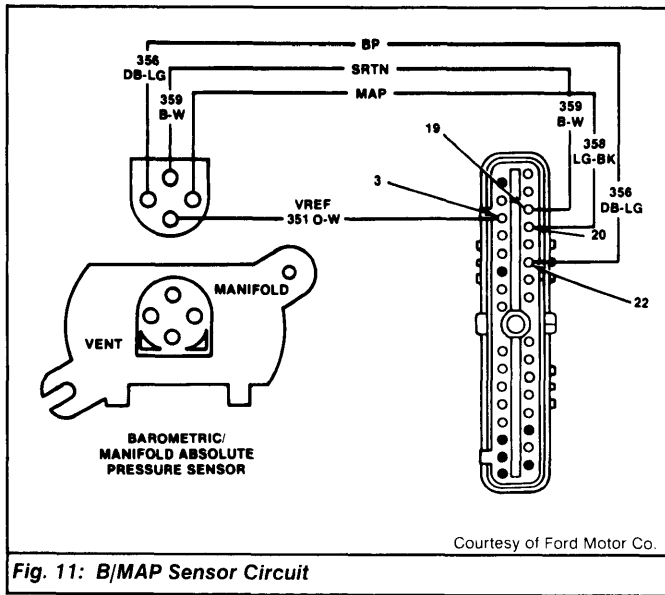

Fig. 11: B/MAP Sensor Circuit
2) The voltage reading from Light Green/Black wire (circuit No. 358) and Dark Blue/Light Green wire (circuit No. 356) should be 7.5-8.5 volts, when measured with Key On/Engine Off (KOEO). See Fig. 11.